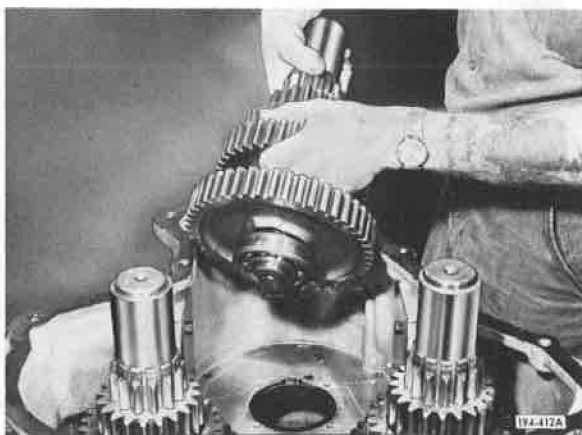

Figure 342. Installing Countershafts
1. Position main box in a vertical position, and install the three countershafts. See Figure 342.